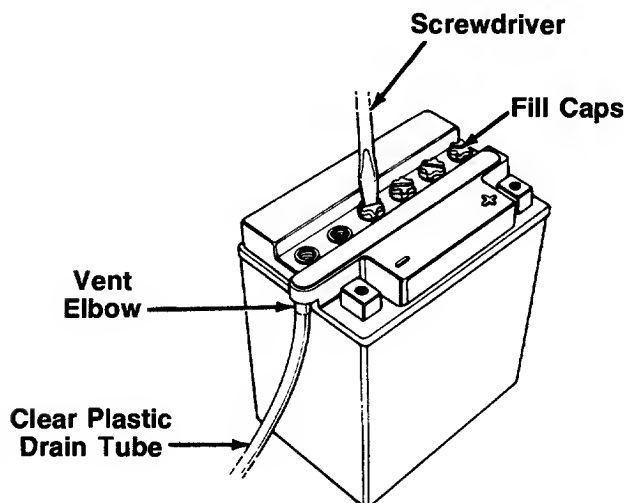

FIGURE 10.
- 3. Remove the six fill caps from the top of the battery with a screwdriver. Be careful not to damage the fill caps. See figure 10. ←